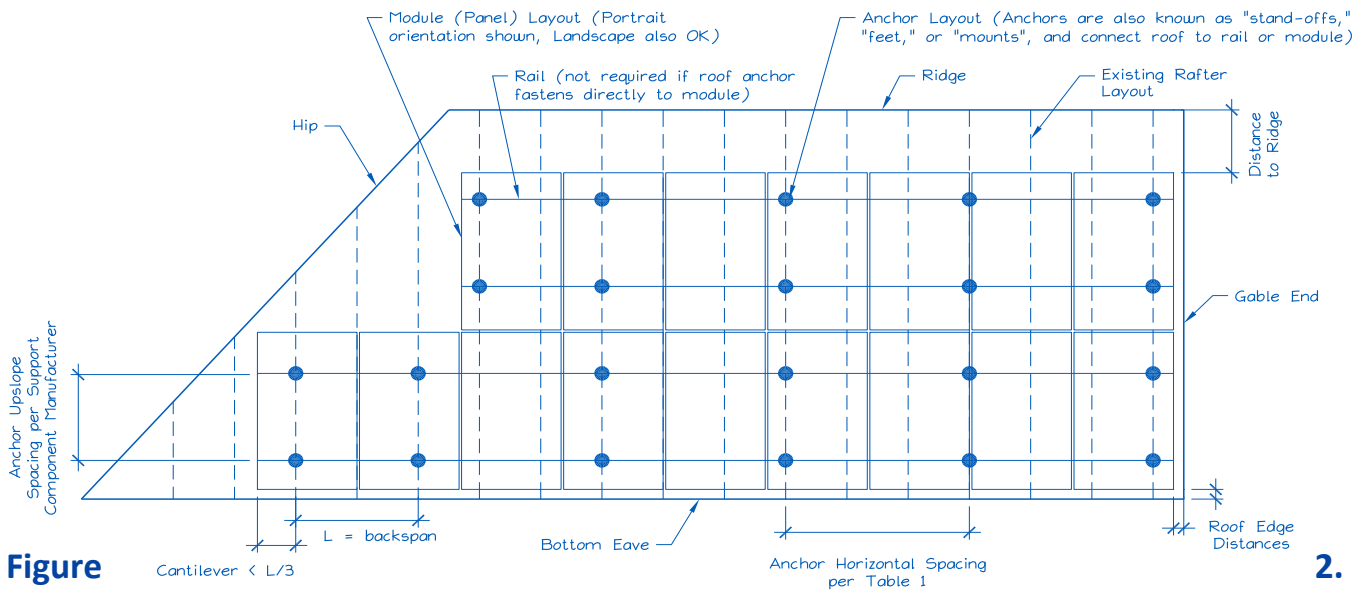

**Figure 1. Roof Visual Structural Review (Contractor’s Site Audit) of Existing Conditions.**
- 2) Does the roof structure appear structurally sound, without signs of alterations? or significant structural deterioration or sagging, as illustrated in Figure 1?  Y  N